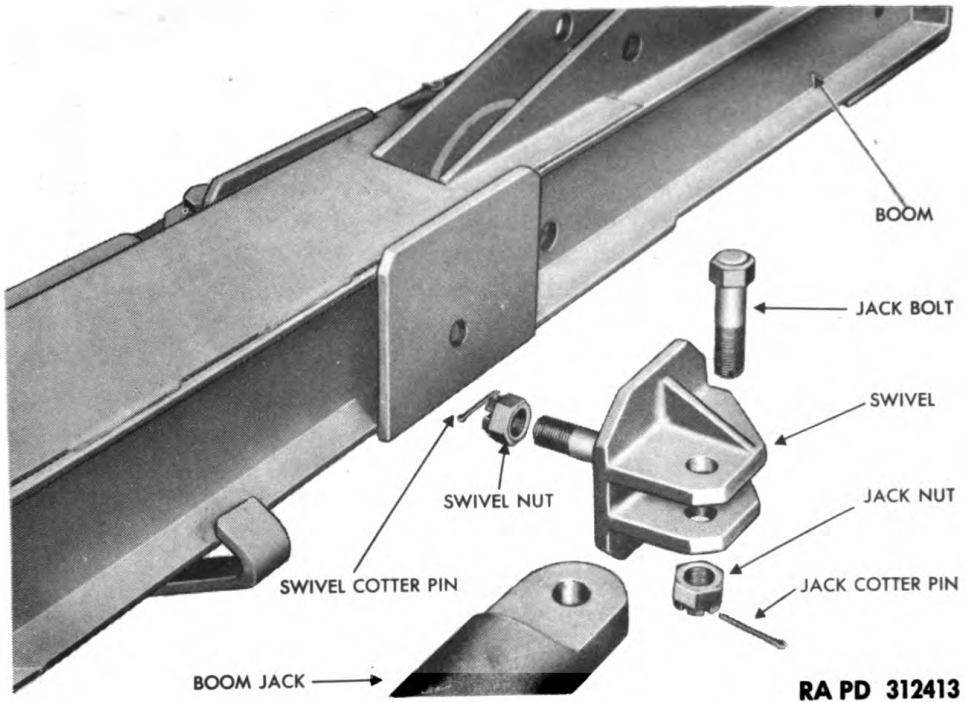

Figure 18 – Boom Jack Swivel – Disassembled
(1) Inspect sheaves for broken groove flanges and replace if broken. Inspect sheaves for worn or scored bushings and replace bushings if indicated.
g. Topping Link Assembly Repair. Clean all parts in dry-cleaning solvent and inspect for pin and sheave bushing wear, pin opening wear and distortion. Replace bushings as outlined in subparagraph d (2) above. If the topping link is bent it can be straightened in a press cold without the aid of a heating torch.
b. Install Boom Jack. Place upper end of the boom jack in the boom upper swivel and install bolt and castellated nut and cotter pins. Place lower end of boom jack on lower anchor pin and install retaining cotter pin (fig. 18).